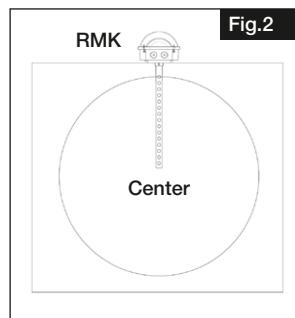
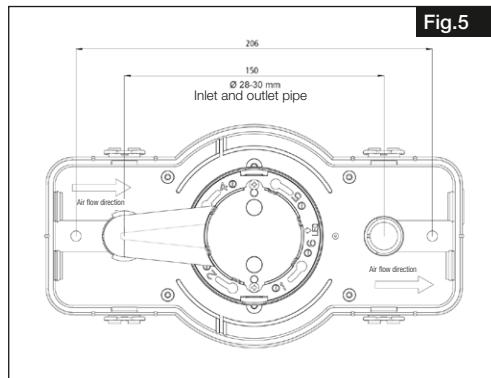

Fig.2
Fig.5
In order to guarantee safe smoke detection, the inlet pipe must be immersed in the duct with at least five openings (min. 140 mm, see Fig. 2).
The duct smoke detector must be installed centrally (see Fig.2) and axially in the air flow direction of the ventilation duct (see Fig.5). Make sure that the installation is as vibration-free as possible!
1. Two opening holes Ø 28-30 mm must be made 150 mm apart in the ventilation duct (cf. Fig.5) for the inlet and outlet pipe.
2. In order to mount the ventilation duct base to the external wall, use the provided tapping screws and seals (hole spacing 206 mm, cf. Fig.5).